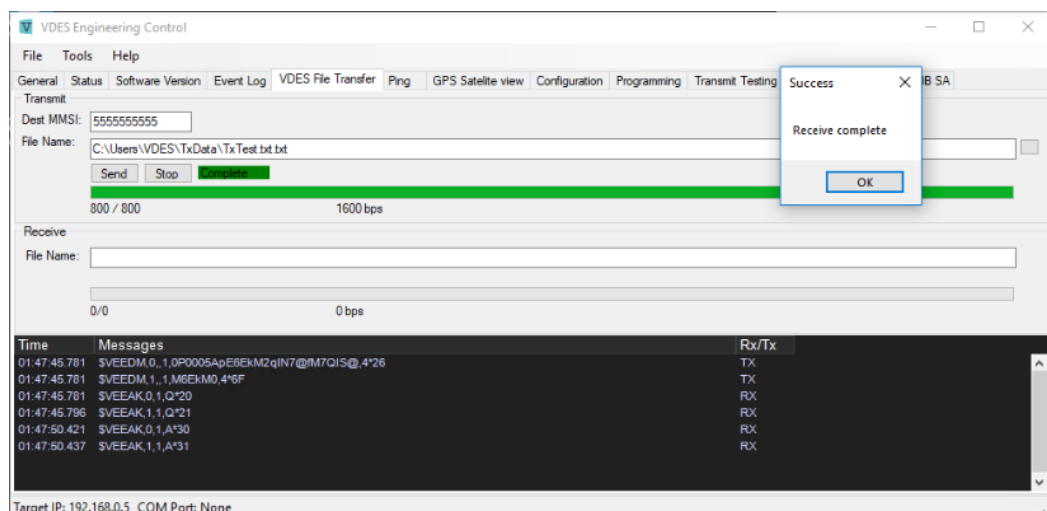

Figure 9 The VDES File Transfer tab showing a message has been transmitted successfully.
18. The black log window should show the sentences over the PI - See Figure 9 below. If an error message is displayed, then check the COM port settings. The progress, including sentences over the PI, should also be visible on the receiving PC. Note the Success dialog in Figure 9 is from the receiving unit.